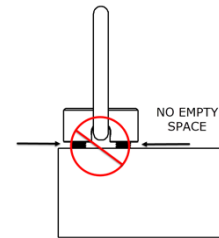

Fig 3
- Drill and tap the workpiece so that the installation screws are perpendicular to the surface of the workpiece. Countersink the tapped holes to prevent “swelling” of the top thread when the screws are torqued. The workpiece surface must be flat, providing complete contact for the lifting ring bearing surface. The tapped holes must be deep enough to ensure the lifting ring screws are fully engaged and there is no empty space between the lifting ring bearing surface and the workpiece surface (Fig.3).